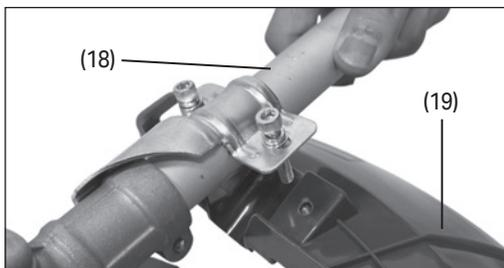

Fig.5
6.2 Fitting the Attachment Guard for Grass Trimmer & Brush Cutter (Fig.5)